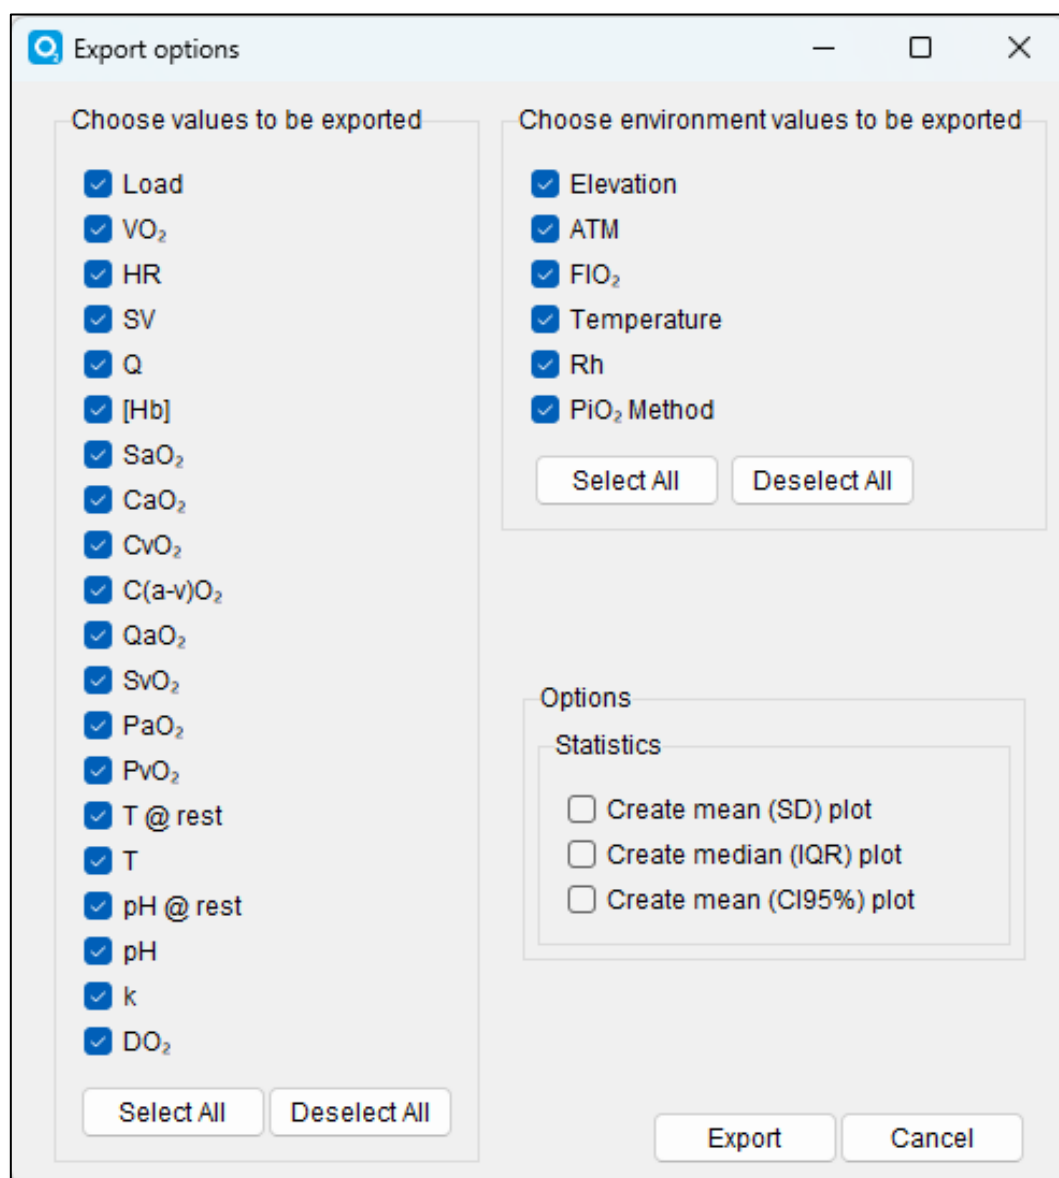

Figure 29 – You can select parameters to be exported by checking the checkboxes. By default, everything is exported.
2. Choose the parameters you want to export (Figure 29).
3. Click the **"Export"** button (Figure 29).